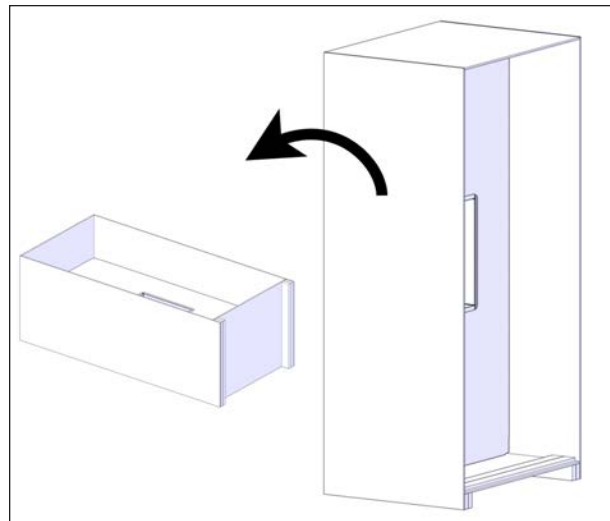

FIGURE 26: LAY THE CRATE ON ITS BACK
16. With the help of another person, lay the crate horizontally on its back. There should be one person on each side of the crate, see Figure 26.